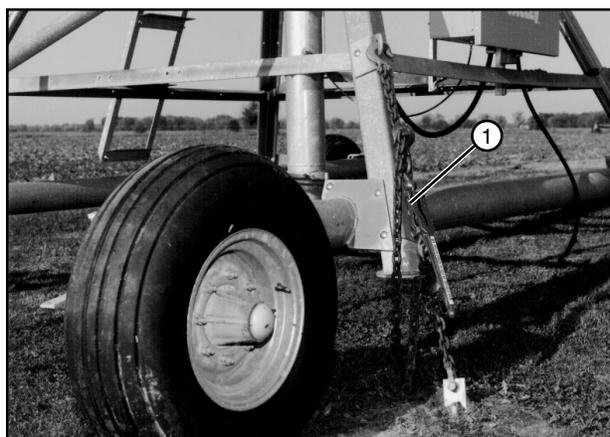

Figure 44-2 1. Load binder
10. Remove the load binders at each corner of the pivot. See figure 44-2.